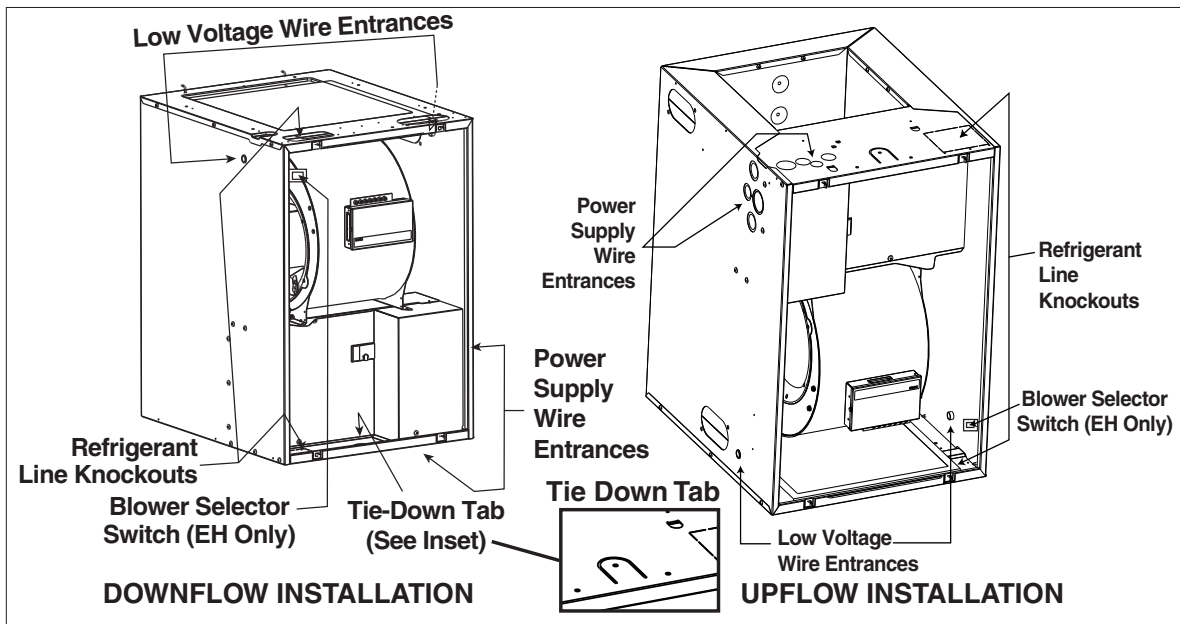

Figure 16. Downflow and Upflow Installations
1. Install 240V supply circuit(s) and 24V wiring to closet or alcove (see Figure 16 for appropriate locations).
4. Secure front of unit with one or more fasteners at mounting hole(s) provided or at tie-down tab (see Figure 16).
3. Install 240V supply circuit(s) and 24V wiring to closet (see Figure 16 for appropriate locations).